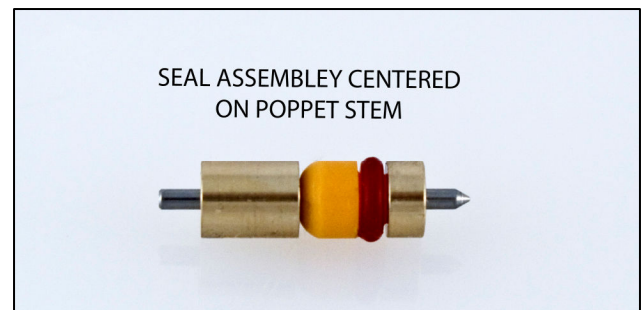

Figure 5
13. Slide the Backup Ring (100151-3) on the poppet shaft so the recessed end mates up with the seal. The seal assembly and buttress should be centered as much as possible on the stem. **See Figure 5**